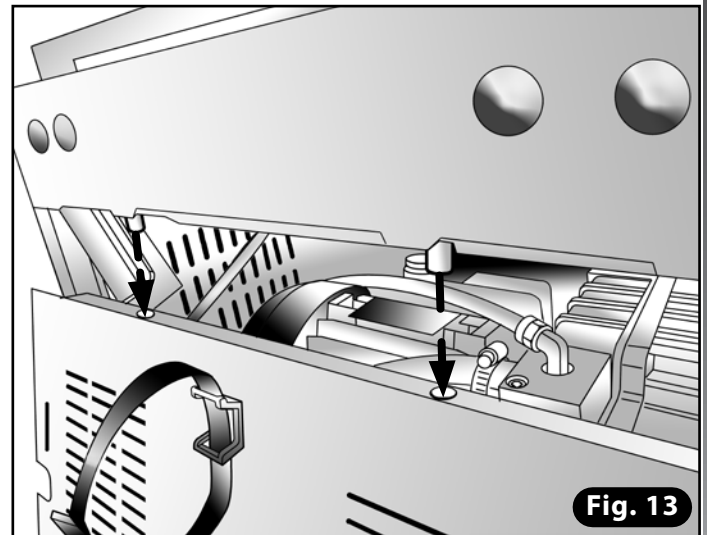
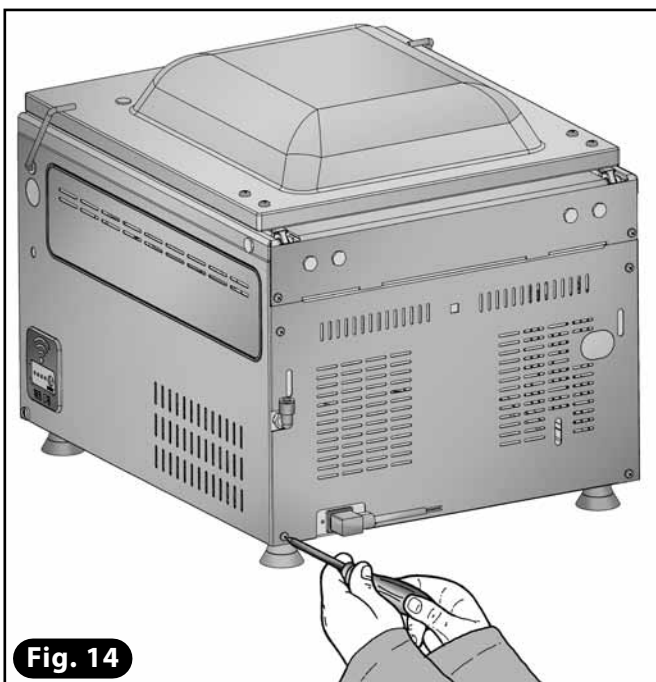

Fig. 13
Fig. 14
- 19) Reposition the back panel making sure it is aligned at the top with the protruding parts of the hinge pivots (**Fig. 13**). Lastly, fasten the screws on the back panel (**Fig. 14**).